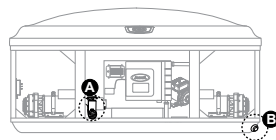

Figure 13.2d
3. Locate one of the two drains that you would like to use, Figure 13.2d. Either the Quick Drain (A) or the 3/4" drain valve (B). Once you choose a draining method, follow the procedures for that method.